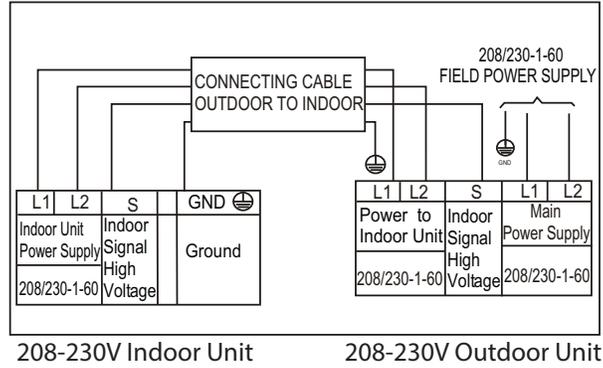
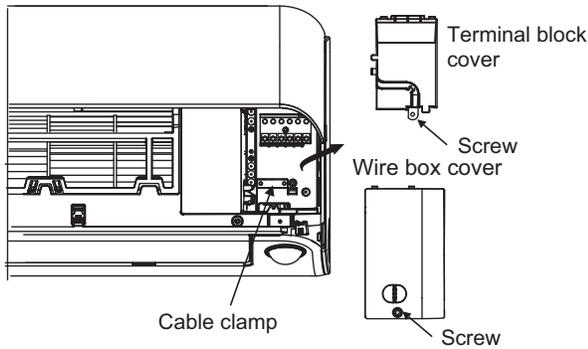

Fig. 12 – Connection Diagrams
Fig. 13 – Terminal Block Location
9. Connect wiring from outdoor unit per connection diagram (see Fig. 12 and Fig. 13).